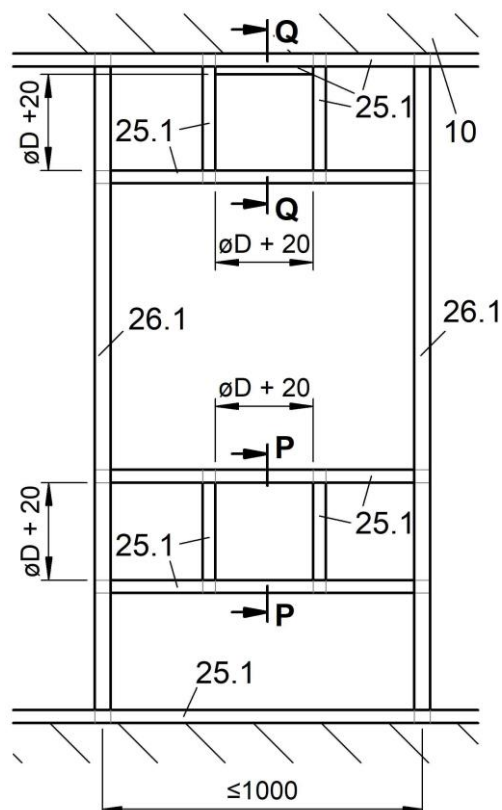

Figure 71: Metal posts plus required exchange parts for dry installation with mounting frame AR
- Mount the metal posts and the wall in accordance with the specifications of the wall manufacturer and the required exchange parts as shown on Figure 71.
- Mount the wall panelling (pos. 24.1) and drill an installation opening for installation of the BSK-RPR (pos. 1) with mounting frame AR (pos. 8).
- Fastening is effected on all 4 existing fixing lugs using dry-wall screws, for example, TN 4.5x70 and suitable U-washers (pos. 29.3) (For nominal sizes 100 - 160 all existing bores of the fixing lugs and for nominal sizes 180 - 500 the two outer bores of each fixing lug must be used).